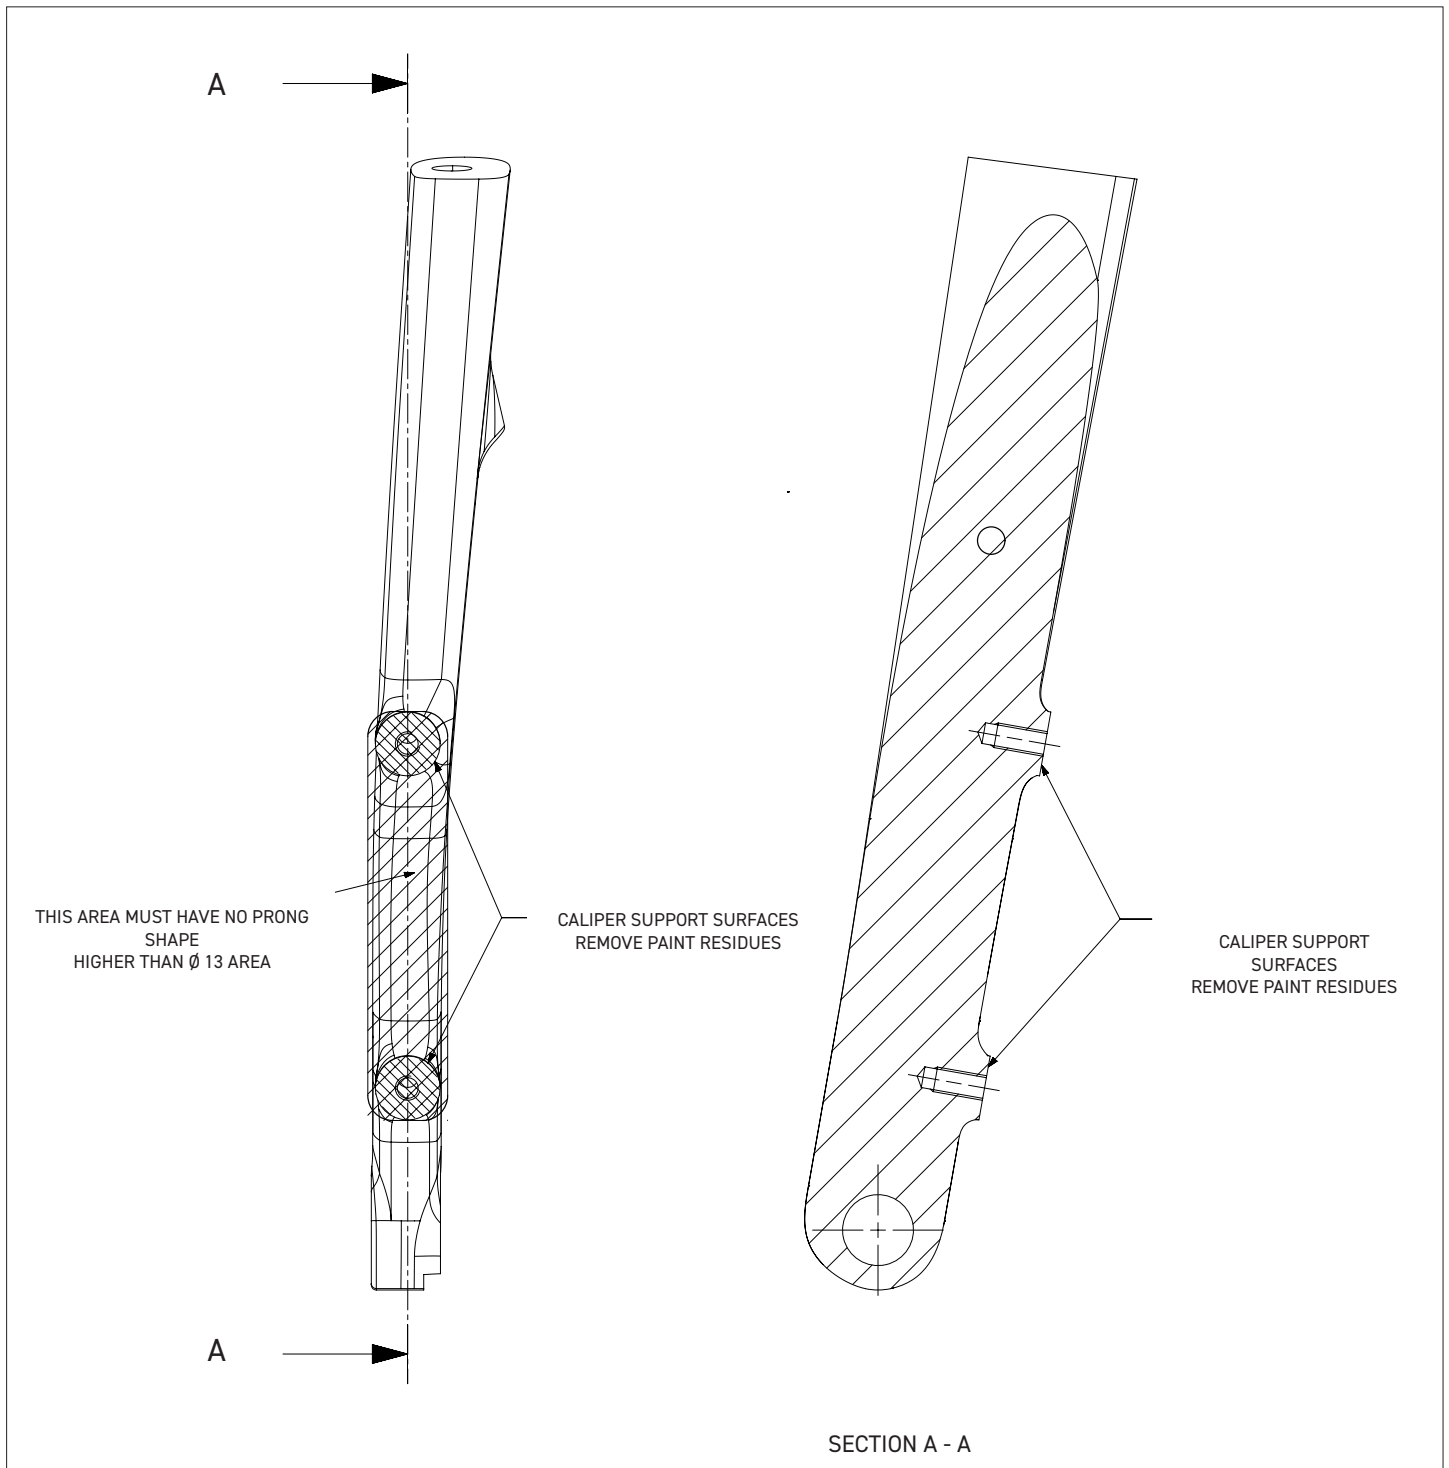

Fig.1
• Remove all traces of paint from the areas where the callipers are to be installed on the fork and the left-hand chain stay. Also remove all traces of paint from the bottom part of the holes on the chain stay, where the rear calliper screw heads rest. (Fig.1 - 1.1).